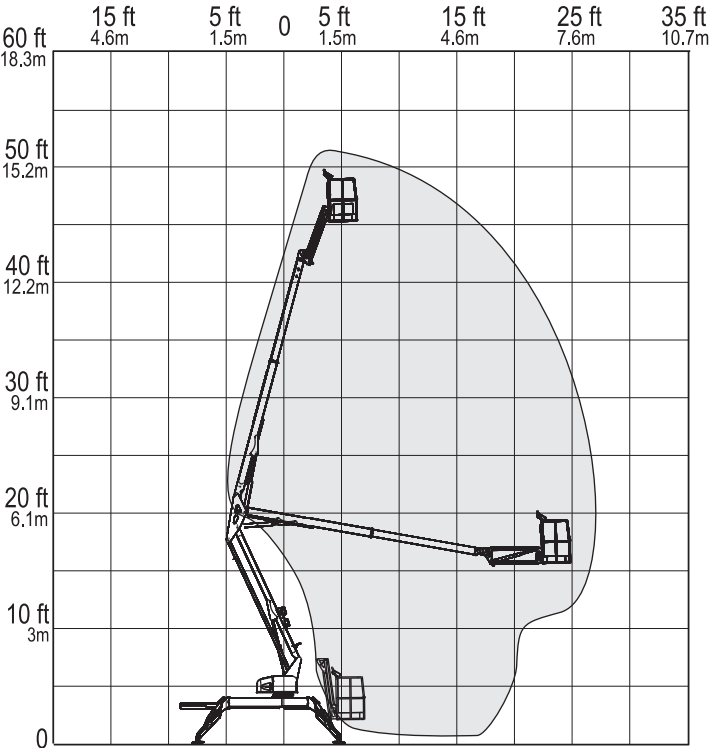

Figure 2-1. Range of Motion
- ❑ Repair or replace as needed. Refer to Figure 2-1.